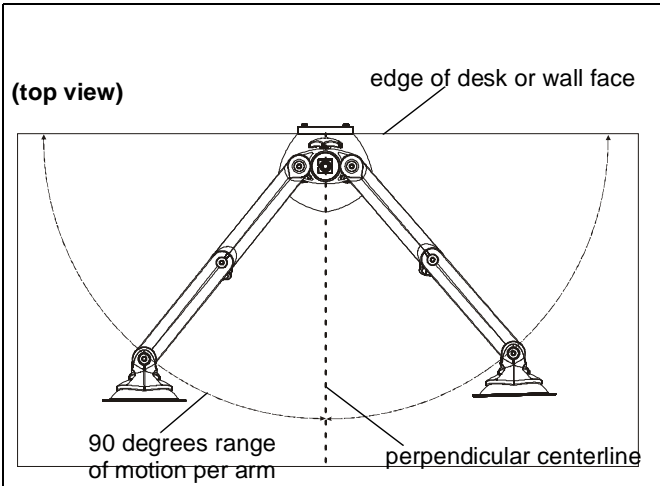

Figure 17
1. Adjust arm angles as desired within a 90 degree range from the edge of desk or wall and a perpendicular centerline of mount. (See Figure 17)